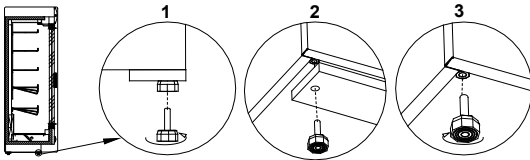

Fig.2 Removing the wooden platform
- Unpack the device and remove the wooden platform from the basis Fig.2 (p.12)